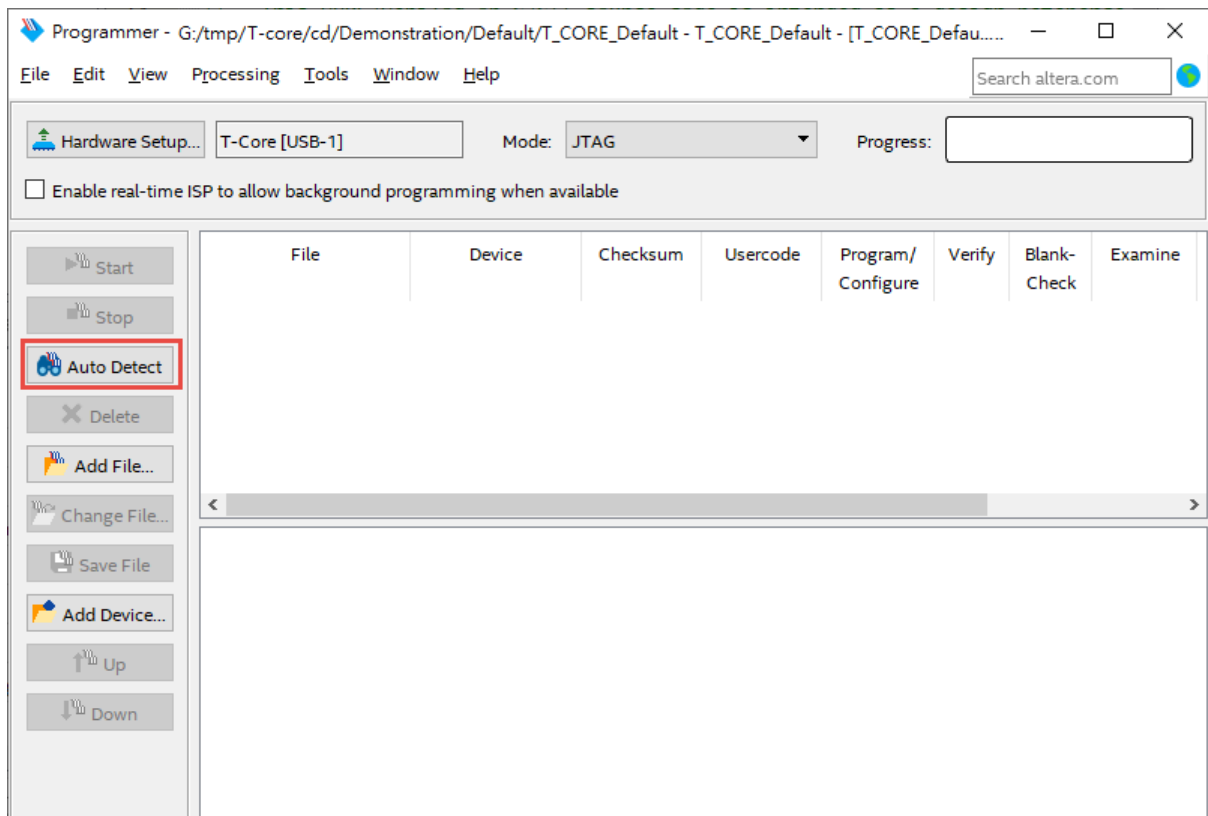

Figure 2-5 Detect FPGA device in JTAG mode
4. Click “Auto Detect” to detect all the devices on the JTAG chain, as circled in **Figure 2-5**.